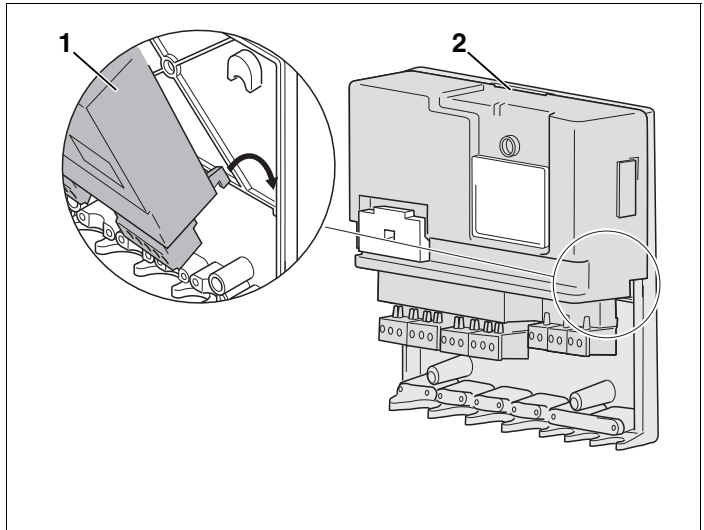

Fig. 10 Slide the function module into position, then push down, ensuring that the lock is engaged
- First fit the bottom tabs of the function module (Fig. 10, **Item 1**) in the wall holder. Then push the top into the wall bracket until the lock (Fig. 10, **Item 2**) engages.